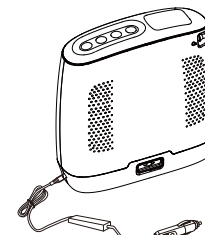

Figure 8
- › When operating, connect cable into the Spirit-3 then connect the DC power plug (Cigarette Lighter Adapter) to the power source. As shown in Figure 8.